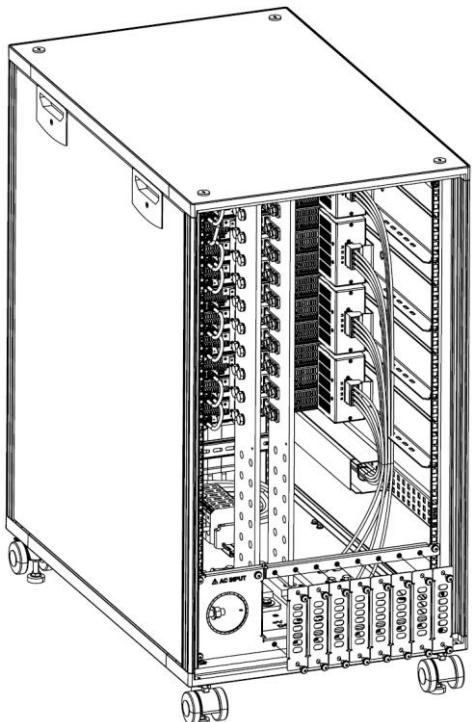

Figure 4-6: Rear Panel Output Slots Disassembly
2. Unscrew the fixing screw to remove the rear panel slots of the cabinet as shown in Figure 4-6.